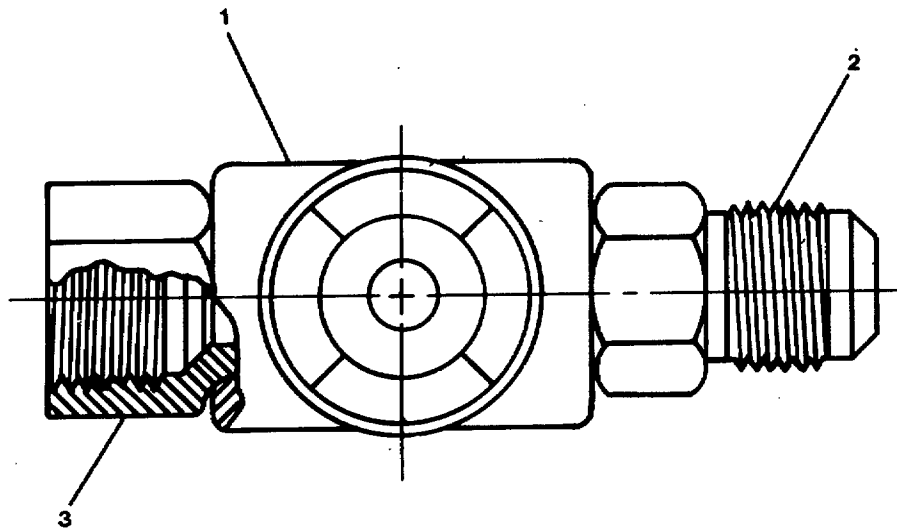

Figure 4-11. Moisture Indicator.
- (1) Remove any refrigerant left in system.
- (2) Remove pressure relief valve (1) by turning hex fitting (2) at base of valve counterclockwise.
- (3) Install new pressure relief valve (1) by turning hex fitting (2) clockwise until snug.
- (4) Evacuate and charge system with R-22 refrigerant (paragraph 4-10).
- (5) Restore electrical power and run air conditioned to check for proper operation.
- (6) Remove "Out of Service" tag from circuit.
- h. Replace moisture indicator (1, FIGURE 4-11) as follows:
- (1) Remove moisture indicator (1, FIGURE 4-11) by disconnecting fittings (2) and (3).
- (2) Install new moisture indicator (1) by connecting fittings (3) and (2).
- a. Tag and disconnect electrical wiring from terminal box (2, FIGURE 4-11).
- b. Remove four mounting bolts (3) and remove electric motor (1).